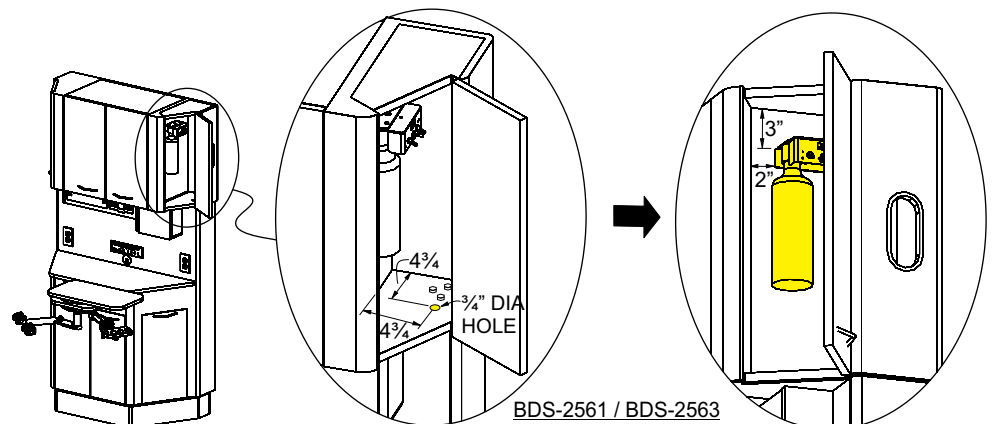

Figure 4
Place Upper Storage (C) onto metal brackets located at the top of the Lower Cabinet sides. Line up the holes with in the metal brackets with the holes in the bottom of the Upper Storage (see Figure 4).
See Figure 4